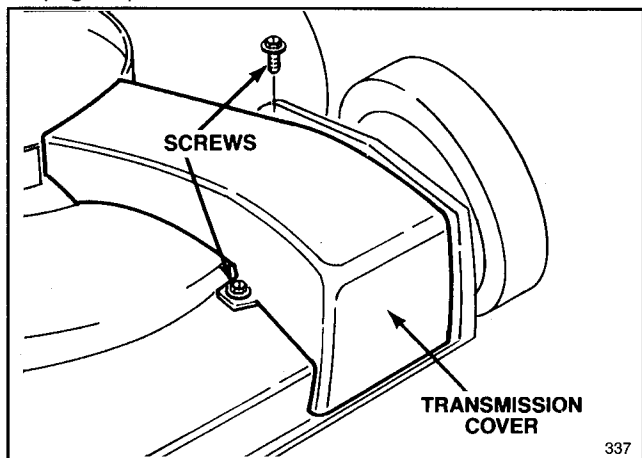

Figure 18
2. Remove two screws and lift off transmission cover (Fig. 18).
2. Remove transmission cover (Fig. 18).